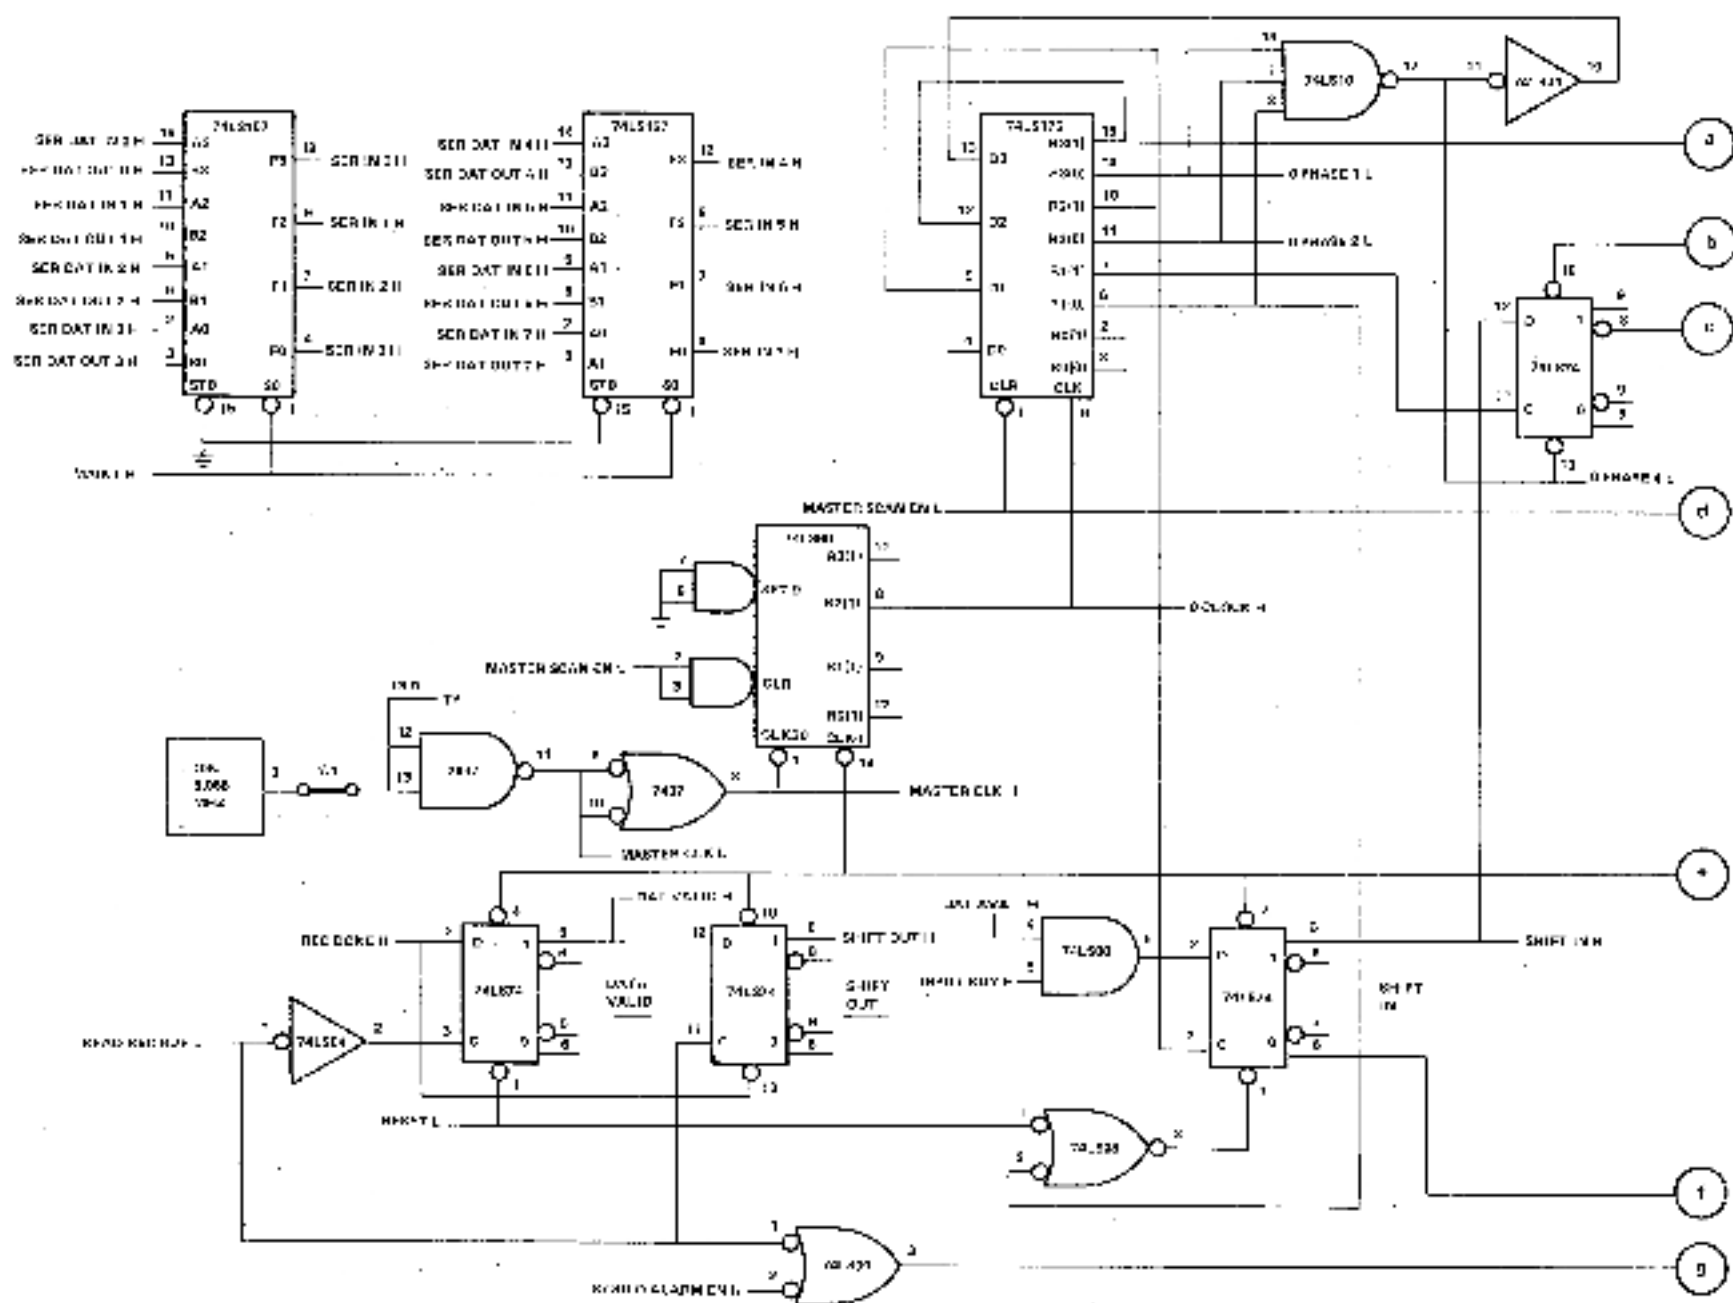

Figure 4-12 Receiver Control Logic
4.5.6 Receiver Control Logic (Figure 4-12)